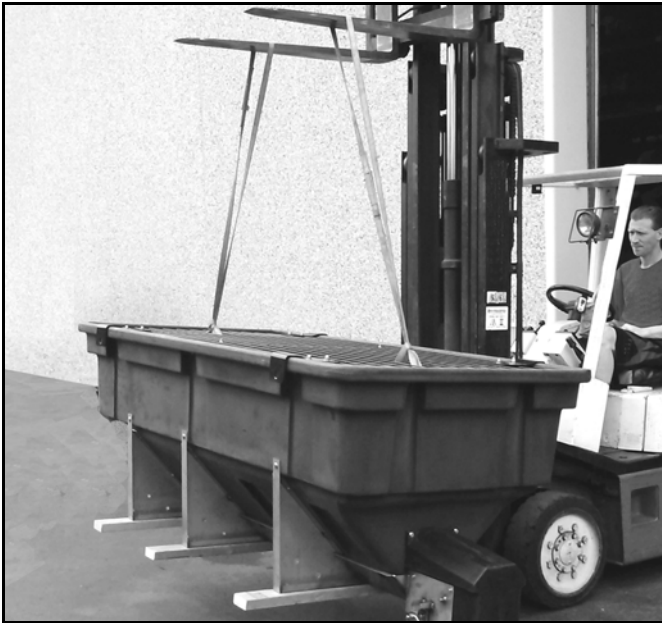

Figure 1-10
3. Attach the free ends of the lift straps to a suitable lifting device and lift the spreader slowly. Maintain the spreader horizontal position as it is lifted. (See Figure 1-10)